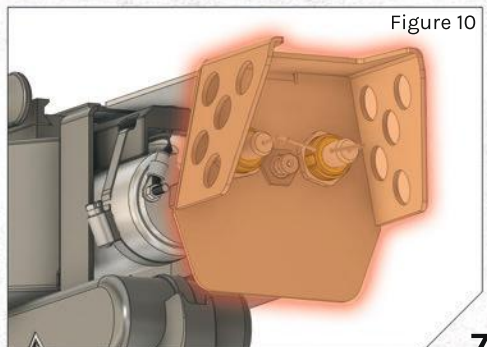

Figure 10
**5** Press the power switch to turn off the system (Figure 8). Blow out any remaining flames at nozzle. Close the nozzle valve (see page 3). Be aware of hot surfaces (Figure 10).